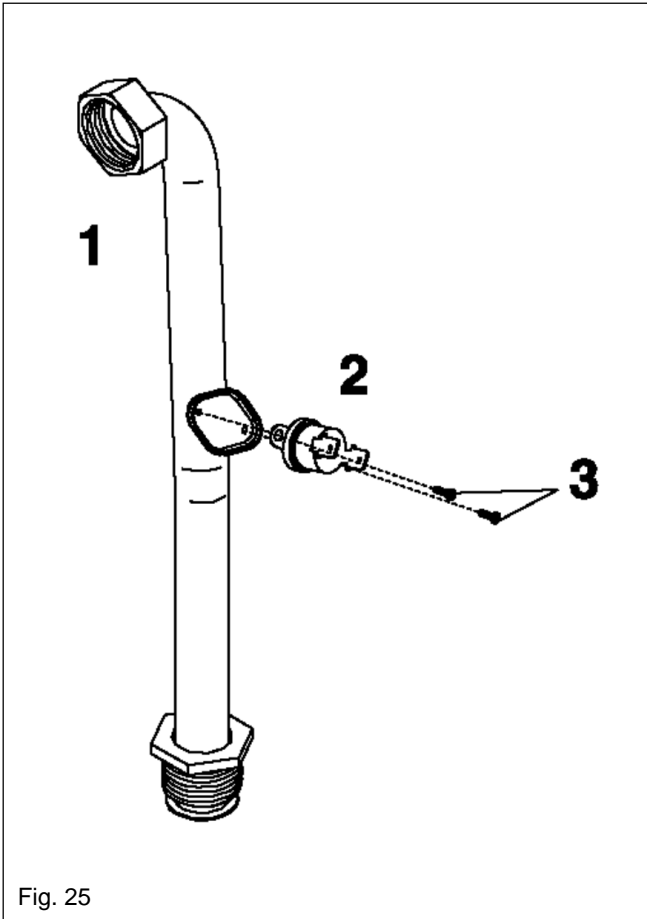

Fig. 25
**6.11 HIGH LIMIT THERMOSTAT (see fig. 25)**